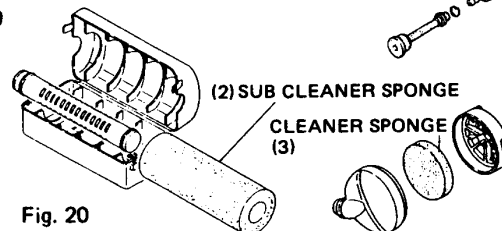

Fig. 20
- a. Clean sub-cleaner sponge every day or every eight hours of operation. More frequent cleaning is recommended under very dusty conditions. Wash the sponge in liquid detergent and water. Squeeze it to remove dirt and press it in a dry rag until it is completely dry. Saturate the sponge in 2-cycle oil or the equivalent. Squeeze it to distribute oil completely and to remove any excess oil. Replace sponge and install cover. (Fig. 20)
- b. The main cleaner sponge (carb side) should be cleaned and apply oil in the same way as abovementioned after every 50 hours of operation. More frequent cleaning may be required if operating in extremely dusty conditions. (Fig. 20)